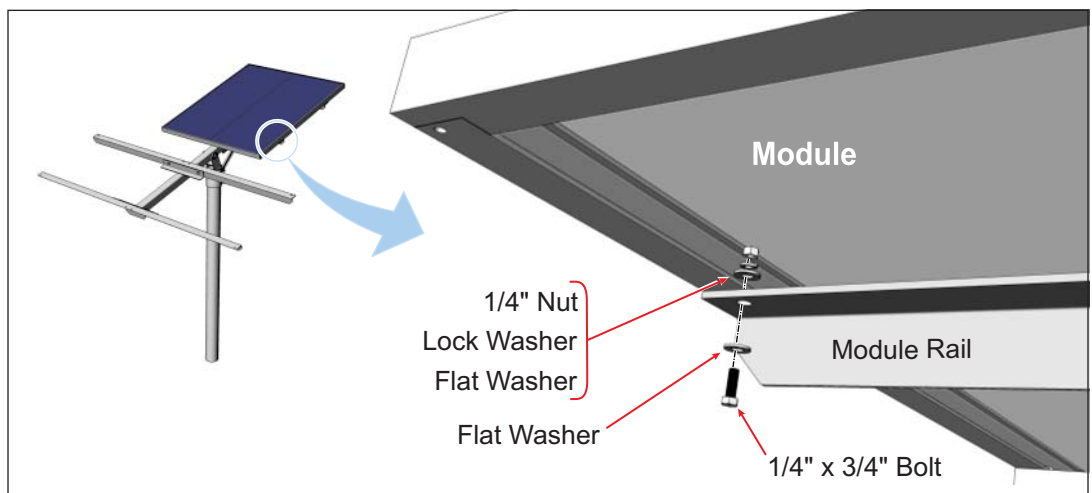

Figure 4-1: Installing PV Modules to Module Rails
- Place the PV Module on the Module Rails. Align the mounting holes and secure with 1/4 inch x 3/4 inch bolts and hardware. Each Module has four attachment points. Finger-tighten for now. (See Figure 4-1)